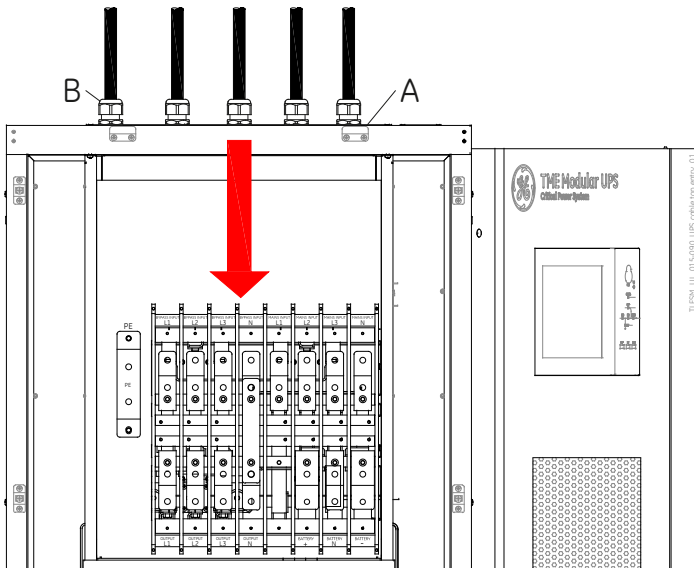
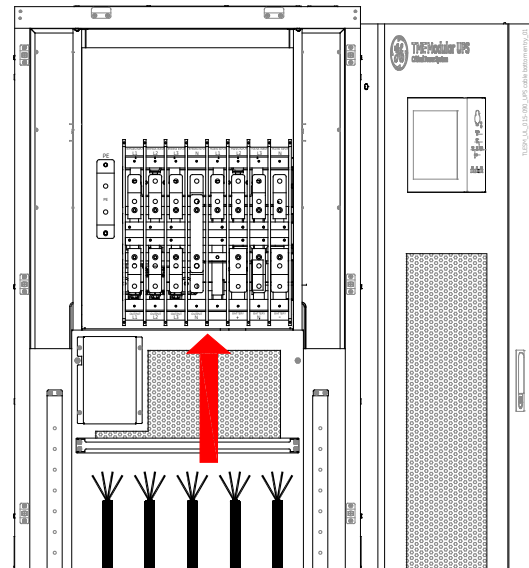

Fig. 4.8-1 Top cable entry
Fig. 4.8-2 Bottom cable entry
The top and bottom cable entry are shown in Fig. 4.8-1 and Fig. 4.8-2.
3. The metal cover can accept up to 16 M40 cable glands (see Fig 4.8-1 / "B") suitable for the rated wiring size: each cable requires a drill and a cable gland.